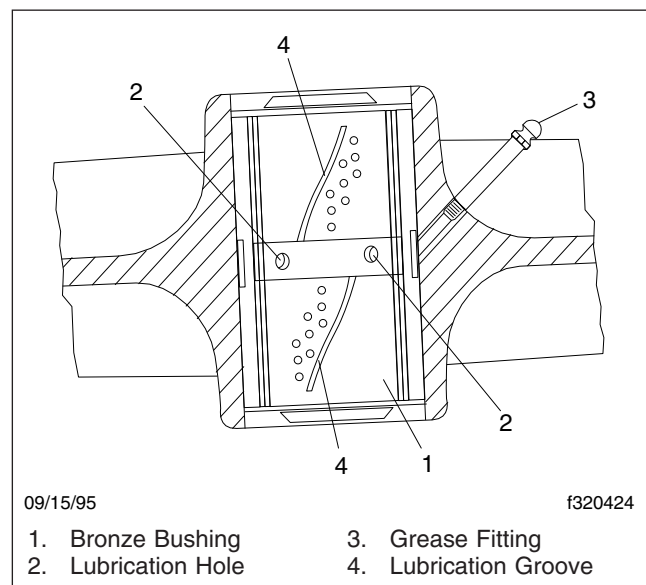

Fig. 10, Hendrickson RT2 and RTE2 Series Bushing Lubrication
3. Use a multipurpose chassis grease and lubricate the bronze, ball-indented bushings in the spring eyes at the grease fitting. See **Fig. 10**. Continue to lubricate until grease exits both ends of the bushing. If the pin will not accept lubricant, remove the pin and clean the lubrication channels where lubricant may have hardened. Remove the safety stands.